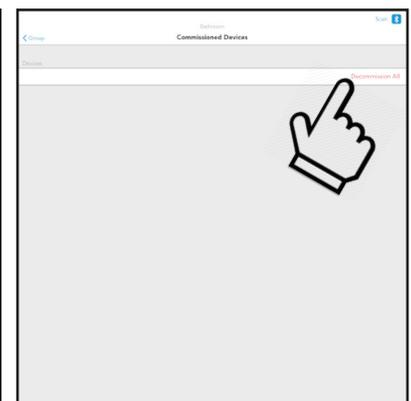

Figure 62: Commissioned Devices
3. To proceed with decommissioning, tap the **Decommission All** link (Figure 62).